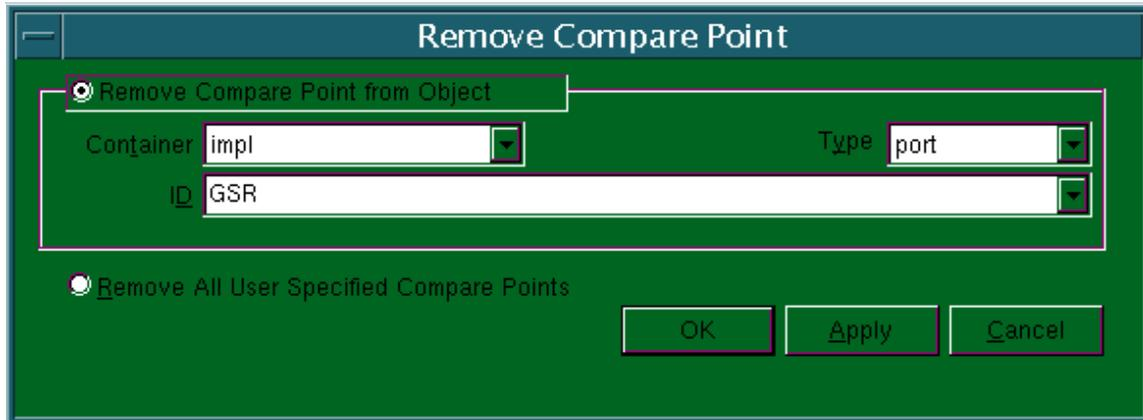

Figure 8: Removing Compare Point
4. If the option is selected to bring GSR or GTS as a port in the back-annotated design, then the compare points for these ports must be removed; otherwise, they are reported as unmatched points by Formality. This can be accomplished via the Formality GUI by selecting Setup > Compare Points > Remove in the pull-down menu, as shown in Figure 8.